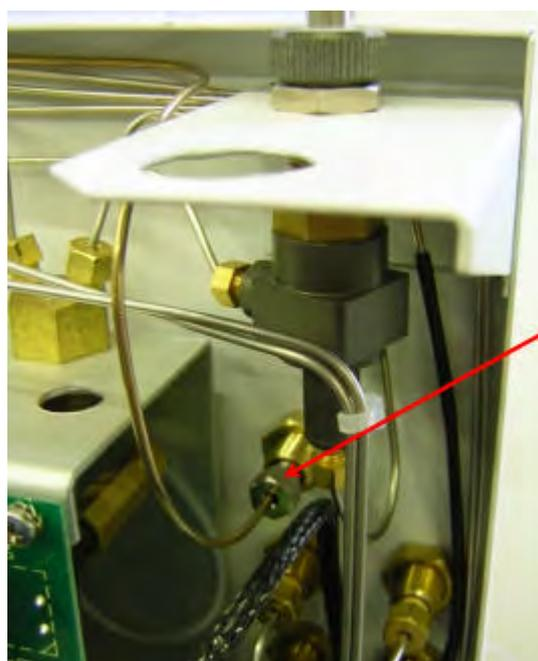

Figure 9-2 - SAMPLE-IN bulkhead
- Connect the deactivated stainless steel shaped tubing (cod. 1300 540 010) between port no.6 of the sampling valve and the bulkhead "SAMPLE IN" inlet, inside the Master TD (Figure 9-2)